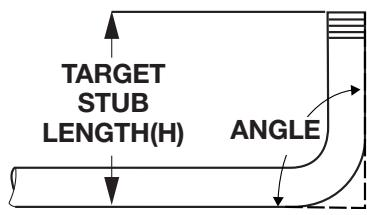

Figure 18
- Determine the Stub Height (H) and the Bend Angle. (Fig.18) These numbers determine the appropriate numbers needed from the bending tables. Different types of bends use different tables and variables follow the instructions for the type of bend to know what variables are needed.